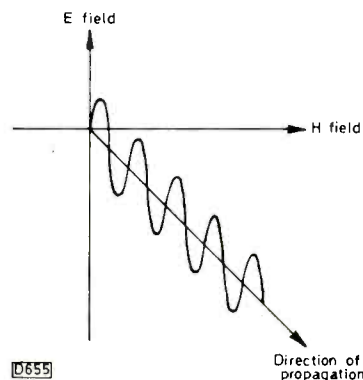

Fig. 18: Propagation of an electromagnetic wave.
Signal transmission along a coaxial cable follows conventional circuit practice and is described in terms of voltage and current. In a waveguide however the signal remains in the form of an electromagnetic wave, with an electric field E at right angles to a magnetic field H. The direction of signal propagation is at right angles to both fields, as shown in Fig. 18. There are two "boundary rules" for waves within the confining walls of a waveguide: (1) If close to a perfectly conducting surface an E field can never be parallel to it. (2) If close to a perfectly conducting surface an H field can never be at right angles to it.